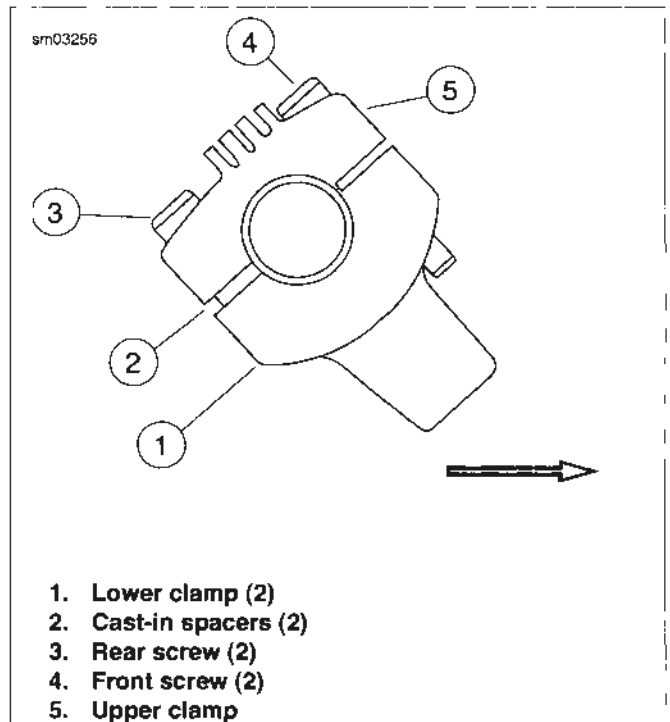

Figure 2-94. Handlebar Riser
4. See Figure 2-94. Place handlebars on lower handlebar clamps. Install upper handlebar clamps. Install but do not tighten clamp fasteners.